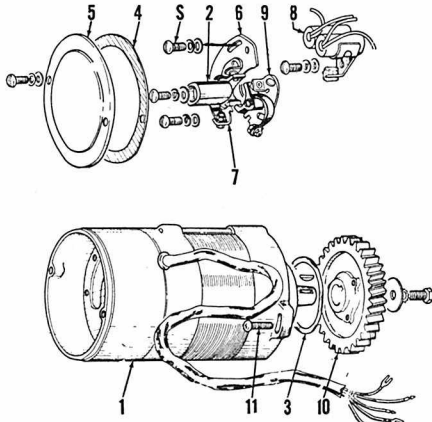
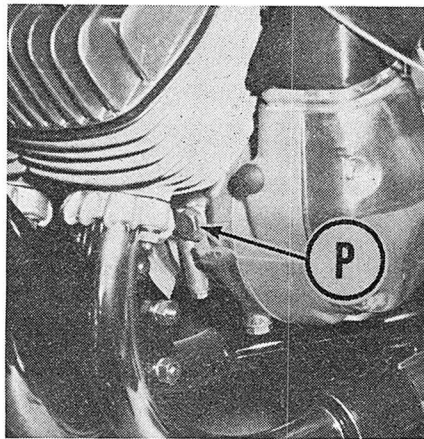

Fig. BS3-4 — Exploded view of early ignition timer. Alternator (1) is available only as a complete unit.
Fig. BS3-5—Ignition timing hole plug is at P.
**IGNITION AND ELECTRICAL.** A battery type ignition system is used with alternator and ignition timer (points) assembly (Fig. BS3-4) mounted behind the cylinders. Maximum gap should be 0.012-0.016 in. for both ignition points (7 & 9) on all models.
Three types of ignition units and alternators have been used. Remove cover (5—Fig. BS3-4); then, refer to Fig. BS3-7 to determine type used. All models before serial number 16G-11761 have two lobes on ignition cam and gear (10—Fig. BS3-4) drives alternators at  $\frac{1}{2}$  crankshaft speed. Both later types are driven at same speed as crankshaft and the ignition breaker point cam has only one lobe. Refer to the appropriate following paragraphs for timing procedure, after determining type used.
**Before Serial Number 16L-20758.** To check ignition timing for both early types of ignition units, proceed as follows: Remove both spark plugs and the timing plug (P—Fig. BS3-5). Insert timing pin in timing plug hole and turn engine until points for right
hand cylinder just open. At exact position where ignition points open, a hole in crankshaft counterweight should be aligned with timing plug hole (P—Fig. BS3-5). An additional hole in the crankshaft counterweight is provided for checking ignition timing for left cylinder.
If ignition timing for right cylinder is changed or if left cylinder timing is incorrect, proceed as follows. Rotate crankshaft until left cylinder timing hole in crankshaft is aligned with timing plug hole (P—Fig. BS3-5). The ignition points (L—Fig. BS3-7) are mounted on base (6—Fig. BS3-4) and can be rotated in the elongated holes after loosening the two base plate retaining screws (S). Recheck timing after tightening screws (S).
**After Serial Number 16L-20757.** To check the ignition timing on models with late type ignition unit, remove both spark plugs and the timing plug (P—Fig. BS3-5). Insert timing pin in timing plug hole and rotate crankshaft until points at rear (for right hand cylinder) just open. At exact position where ignition points just open, a hole in crankshaft counterweight should be aligned with timing plug hole. The additional hole in crankshaft counterweight is for timing left cylinder.